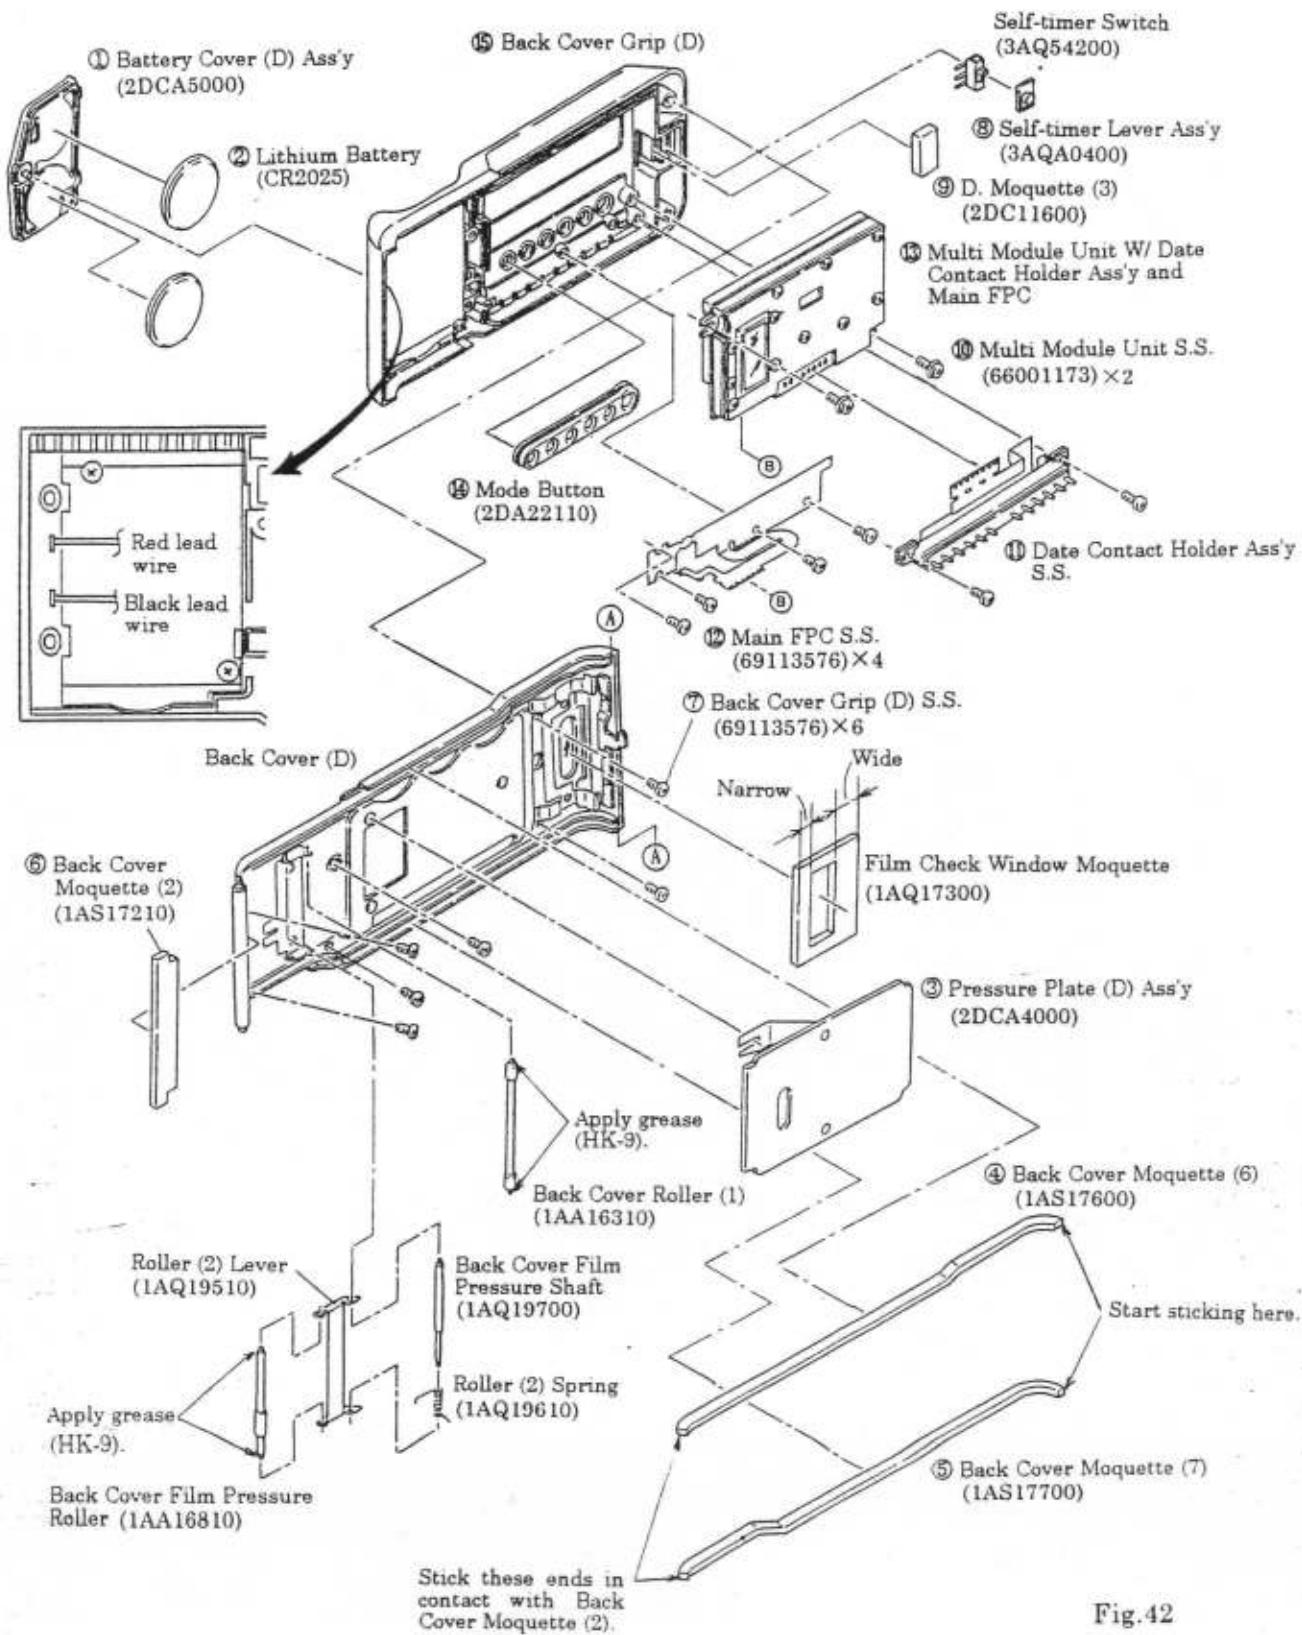

Fig.42
- 1) Remove parts in the numerical order of ① to ⑨ shown in Fig. 42.
- 3) Remove parts in the numerical order of ⑩ to ⑯ shown in Fig. 42.
- a) Apply Grease (HK-9) to both ends of each of the Back Cover Film Pressure Roller (1AA16810) and Back Cover Roller (1) (1AA16300). (See Fig. 42)
- Immediately after applying the bond, attach the Back Cover Moquette (7) (1AS17700) and Back Cover Moquette (6) (1AS17600), starting at ④ end of the Back Cover (D). Ensure that the other ends of the Back Cover Moquette (7) and Back Cover Moquette (6) are in contact with the Back Cover Moquette (2). (See Fig. 42)
- d) Stick the Film Check Window Moquette (1AQ1 7300) in the position as shown in Fig. 42.
(See Fig. 42)